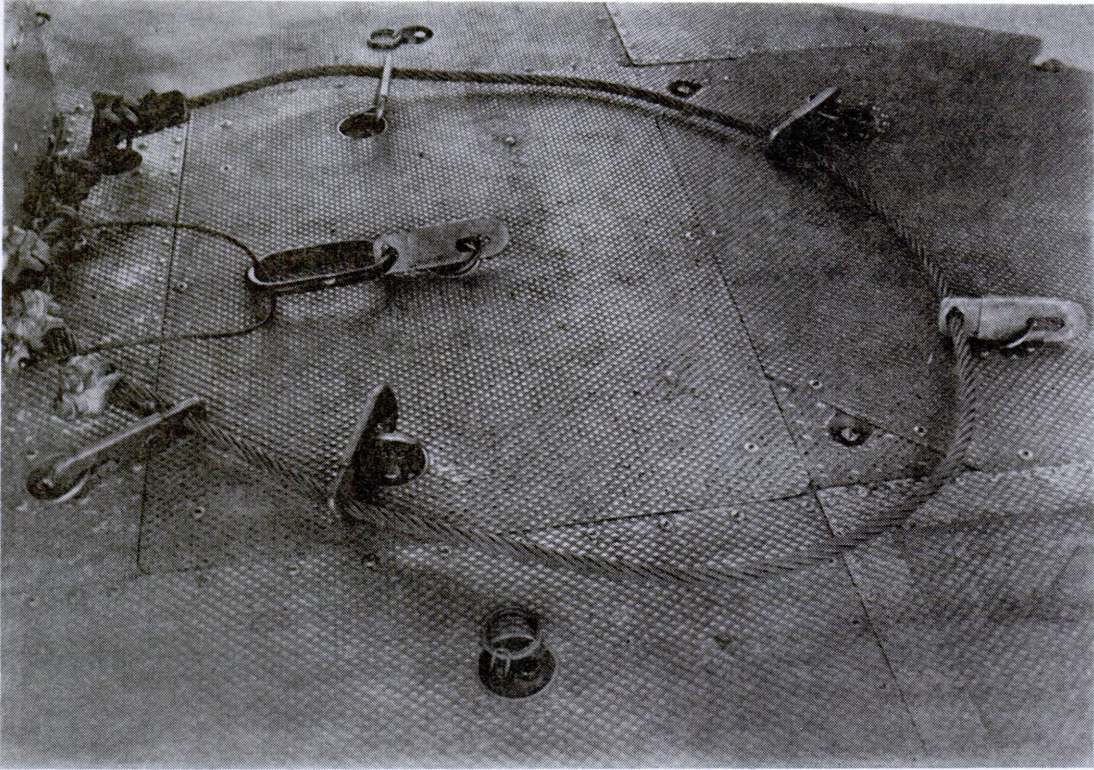

Figure 1. Donut ring attached to the floor of the helicopter.
4. Secure the donut ring to the center of the floor of the helicopter (fig. 1).